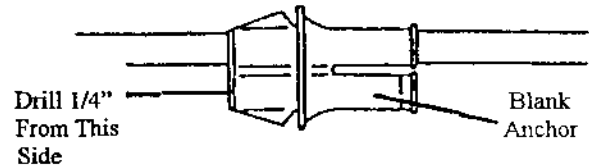

FIGURE 23
2. This anchor is hollow except at one end. Use a 1/4" bit and drill as shown in **Figure 23**.